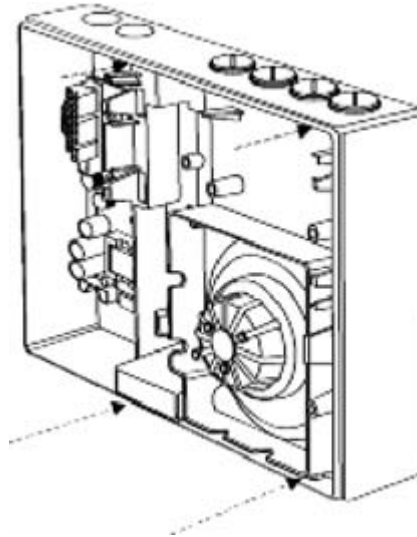

Figure 7-6: Removing the VLP or VLS chassis
7. Remove the chassis, holding the chassis by the aspirator assembly. Release the two lower locking tabs by lifting the chassis upward and pulling outward. Use a screwdriver to assist with tab release if necessary. Refer to Figure 7-6 below.